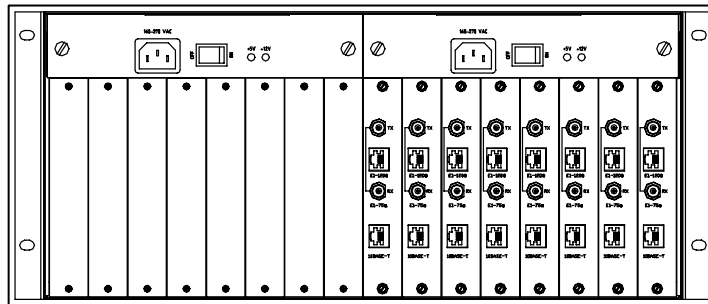

Figure 6 Rear panel of rack
- The rear panel of RACK is shown in figure 6.